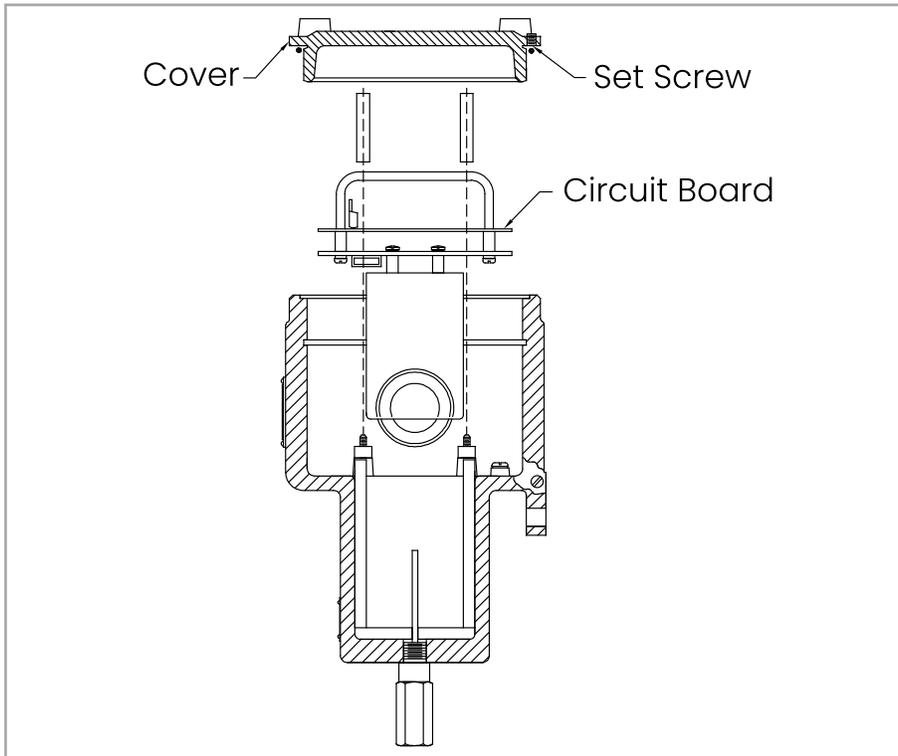
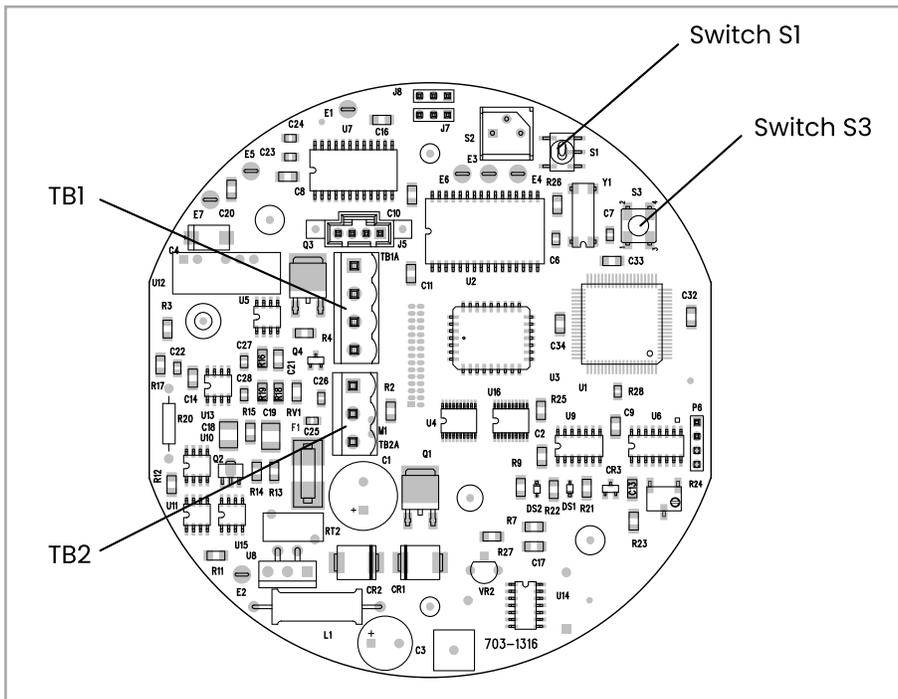

Figure 10: XMO2 Cover, set screw, and PCB
Figure 11: PCB calibration switches
To prepare the XMO2 for a field calibration, refer to *Figure 10* on *page 17* and perform the following preliminary steps:
3. Refer to *Figure 11* on *page 17*, and locate the following items:
Note: The XMO2 digital PCB (see Figure 11 below) is located directly below the cover (see Figure 10 above)
3. Using *Figure 11* on *page 17* as a guide, locate the Calibration Pushbutton (Switch S3). Depress the Calibration Pushbutton and hold it down for 20 seconds. During this time, the green light below the Calibration Pushbutton will go out.
Using *Figure 11* on *page 17* as a guide, locate the Zero/Span Selector (Switch S1). Set the Zero/Span Selector (Switch S1) to position "1" ("Zero").
Using *Figure 11* on *page 17* as a guide, locate the Calibration Pushbutton (Switch S3). Depress the Calibration Pushbutton and hold it down for 20 seconds. During this time, the green light below the Calibration Pushbutton will go out.
2. Using Figure 11 on page 17 as a guide, locate the Zero/ Span Selector (Switch S1). Set the Zero/Span Selector (Switch S1) to position "3" ("Span").
3. Using Figure 11 on page 17 as a guide, locate the Calibration Pushbutton (Switch S3). Depress the Calibration Pushbutton and hold it down for 20 seconds. During this time, the green light below the Calibration Pushbutton will go out.
To prepare for this calibration method, refer to *Figure 10* on page 17 and perform the following preliminary steps: